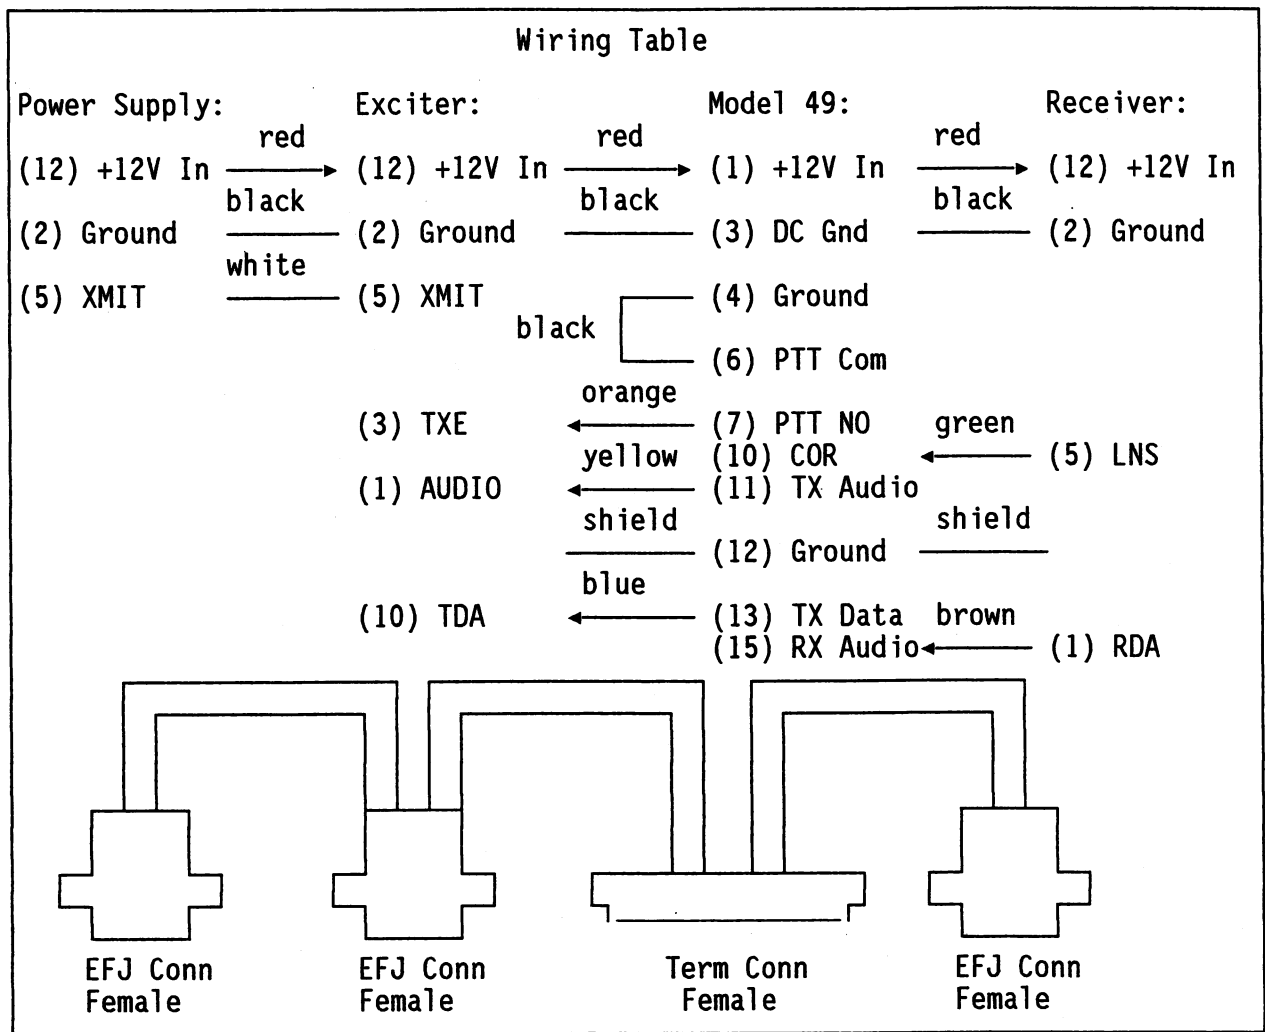

Figure 4-3. Model 42 to E.F. Johnson 800 MHz Repeater Cable (P/N 709-7117)
- [7]. Attach the Zetron Cable Harness (P/N 709-7117) to the Model 42, EFJ Exciter, EFJ Receiver, and EFJ power supply. Note that each connector is marked. Refer to Figure 4-3 for the wiring diagram.